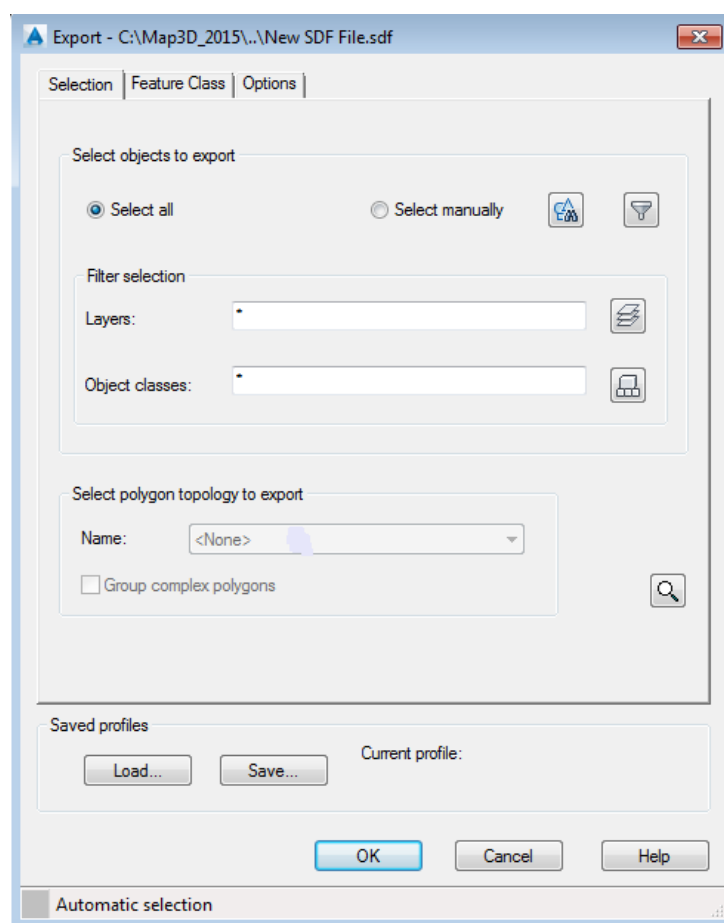

Figure 2-36 The **Export** dialog box with the **Selection** tab chosen
3. Now, choose the **OK** button; the dialog box is closed and the **Export** dialog box is displayed with the **Selection** tab chosen, as shown in Figure 2-36.